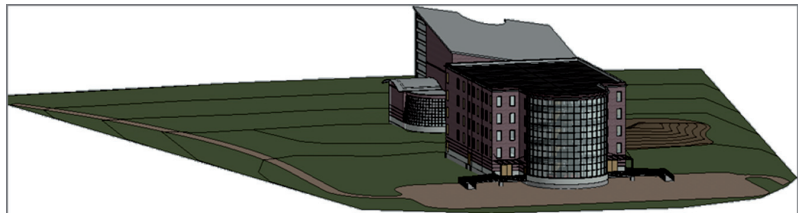

FIGURE BC3.13: The sidewalks in 3D
8. Go to a 3D view, and compare yours with Figure BC3.13.
16. Click the Load Into Project button. Click Overwrite The Existing Version if prompted to do so. Your model should resemble Figure BC3.13.